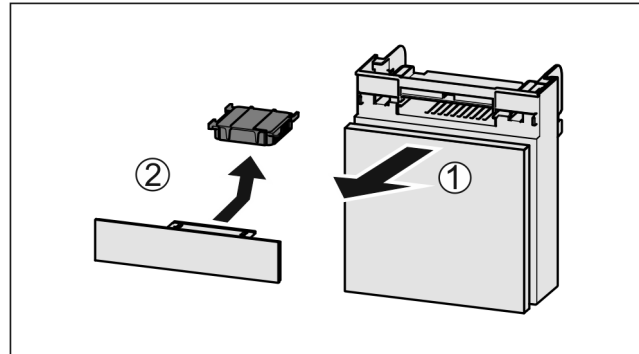

Fig. 161
- ▶ Pull out the compartment Fig. 161 (1).
- ▶ Remove the carbon filter Fig. 161 (2).